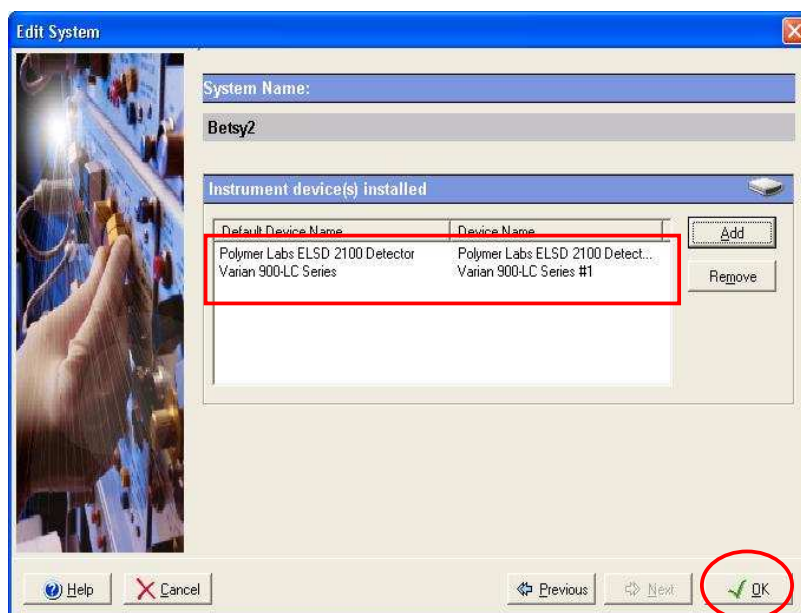

Figure 7: Edit System Window
7. Your Galaxie window should now look like the one below (Fig 7)